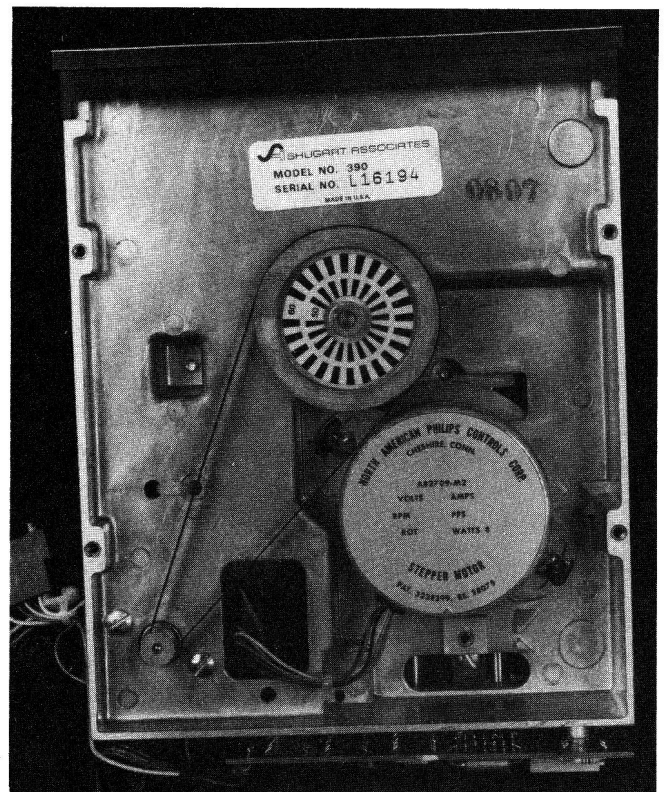

Fig. 8-23. The two circles of timing marks are clearly shown on the strobe disk.
4. Locate the timing marks on the strobe disk as shown in Fig. 8-23. The outer circle of markings is used for 60 Hz electrical systems common in the United States. The inner circle of strobe markings is used with 50 Hz line power such as is found in Europe.